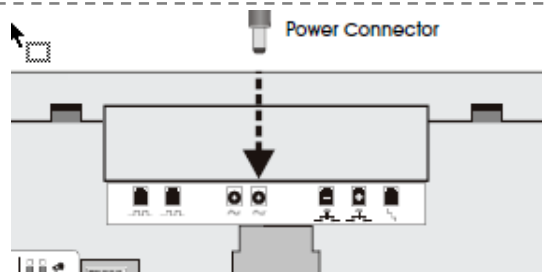

Figure 15
3. Plug the power connector into either of the two power receptacles located on the back of the display (Figure 15)